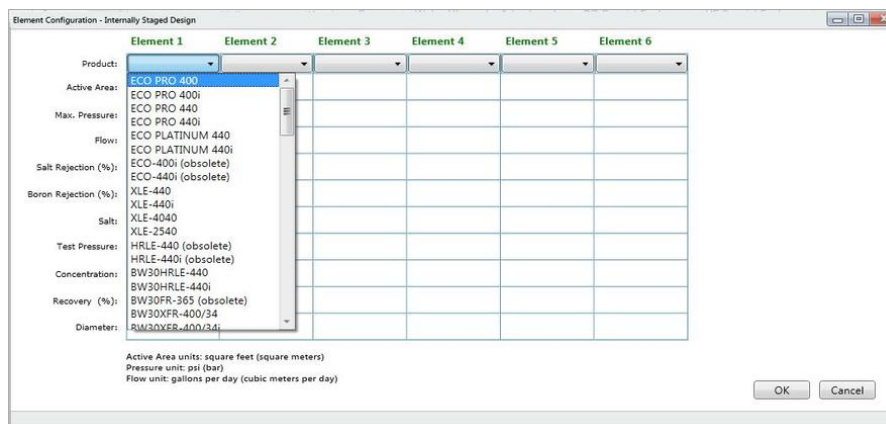

Figure 126. Edition of the ISD Specification Pop-up Window
6. A user can modify an ISD by clicking on the “Edit ISD” as shown in Figure 125 and Figure 126. The Specification Pop-up Window will appear.